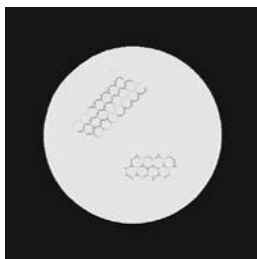

Figure 3-7. Chicken Wire
(5) Chicken Wire. An irregular pattern of dark thin lines in the field-of-view either throughout the image or in parts of the image area (see Figure 3-7). In the worst cases, these lines will form hexagonal or square, wave-shaped lines. No action is required if this condition is present, unless it interferes with the operator's ability to view the image or to perform the mission.